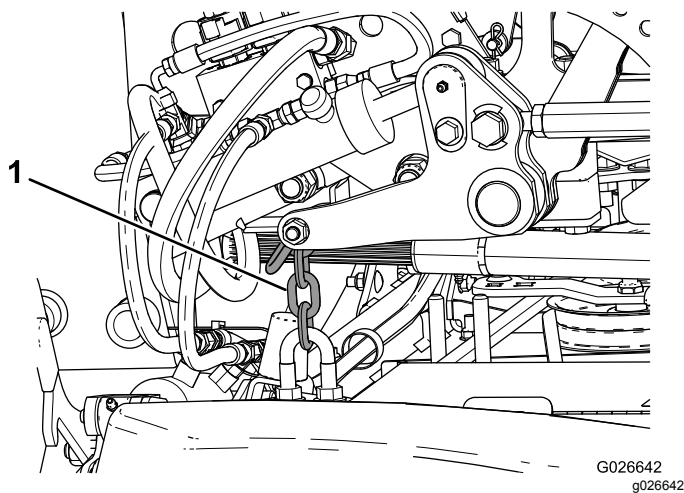

Figure 17
- A. Secure the right, rear lift chain to the **inboard** side of the lift bracket with a bolt and 2 nuts (Figure 17).